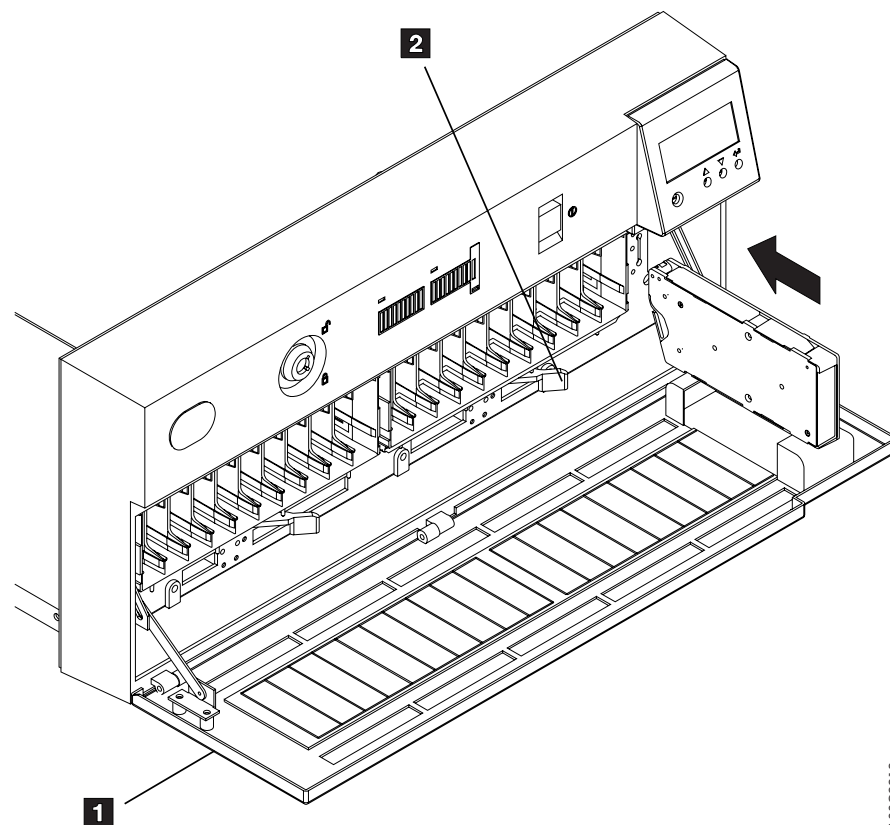

Figure 64. Loading a Cartridge in the Library
3. Insert new cartridges into the magazine in the orientation that is shown in Figure 64. Be sure to insert the cartridge to the full import position by pushing it gently into the magazine until it comes to a stop and even with the front of the magazine.